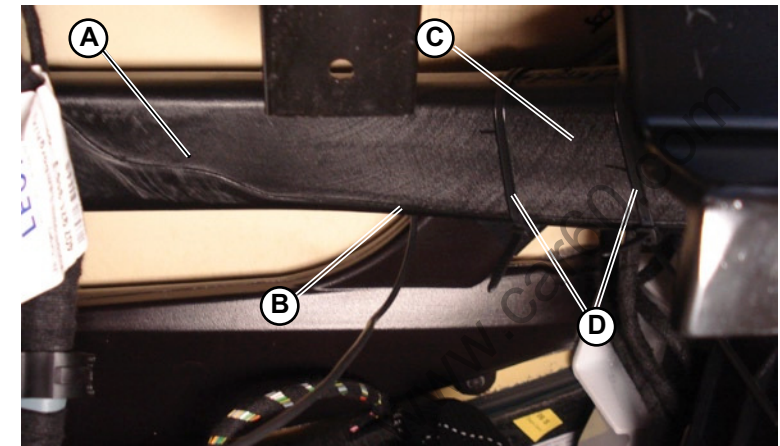

Fig.4
5. Pay attention to the informations concerning the GPS antenna present in the previous page. Position the GPS antenna (9-Fig.2) in a perfectly horizontal position on the pipeline of the air-conditioner (A-Fig.4) that are present under the dashboard on the passenger side. It's not necessary to remove the dashboard, it's possible insert from below the antenna in the indicated point (B-Fig.4).
7. Position the GSM antenna on the same air-conditioner pipeline (A-Fig.4) where the GPS one has been placed; it's possible place the GSM antenna in oblique position (C-Fig.4) on the right side of the GPS one.
8. Fix the GSM antenna in the right position using two cable tie of the ones supplied in the kit; the cable tie must be positioned on the extremities of the GSM antenna (**D-Fig.4**).